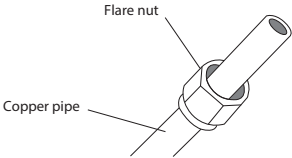

Fig. 11.3
- 3. Place flare nuts on both ends of pipe. Make sure they are facing in the right direction, because you can't put them on or change their direction after flaring. See Fig. 11.3